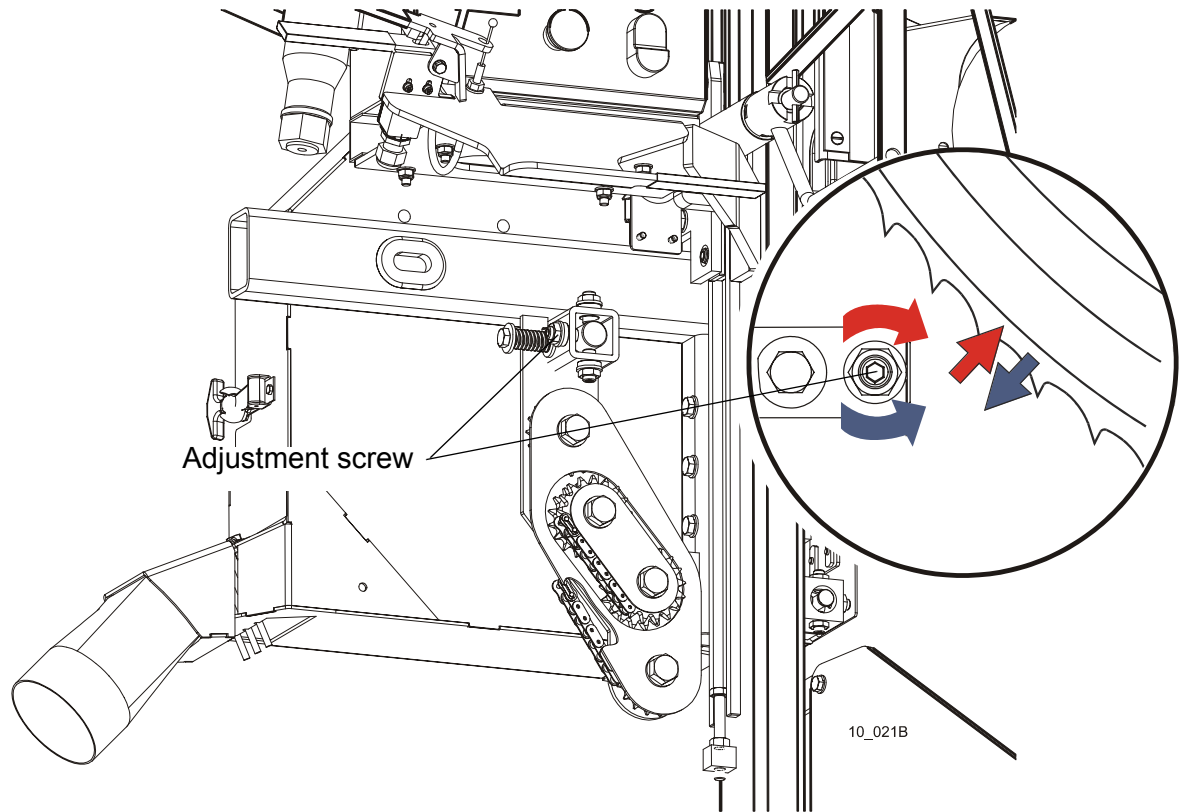

FIG. 6-7
**See Figure 6-7.** Use the horizontal adjustment screw to adjust the drive-side blade wheel. Loosen the jam nut on the adjustment screw. Loosen adjustment screw to move blade out on wheel. Tighten